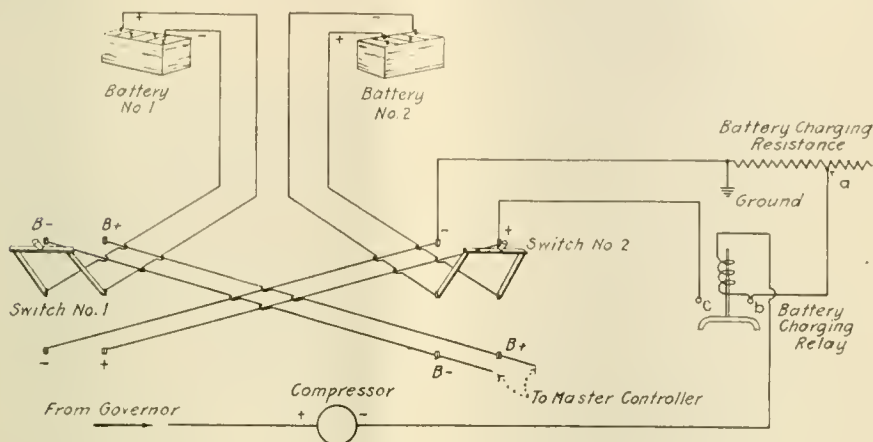

FIG. 15. DIAGRAM OF CONNECTIONS FOR BATTERY CHARGING D. C.
A. The diagram of connections for battery charging with D. C. operation is shown by Fig. 15. It is noted that the negative side of the compressor is connected to the coil of the relay "B" known as the battery charging relay and from there connection is made to the battery charging resistance. When the governor closes and the compressor operates, the current flowing through the compressor flows through the relay coil to point "a" on the resistance to the ground.